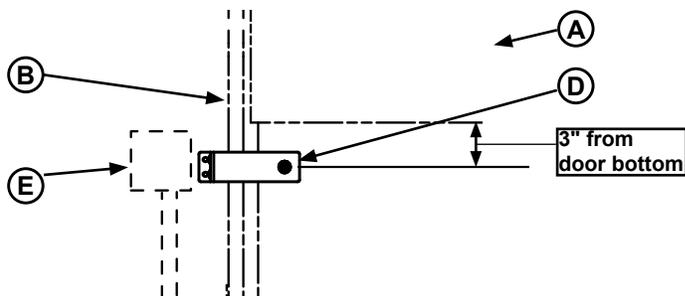

Figure 36
4. Position the bracket so that it is plumb and level. Ensure that the bracket will clear the door track and also position the sensor below the bottom of the door (**A**) when it is fully open only. See **Figure 36**.